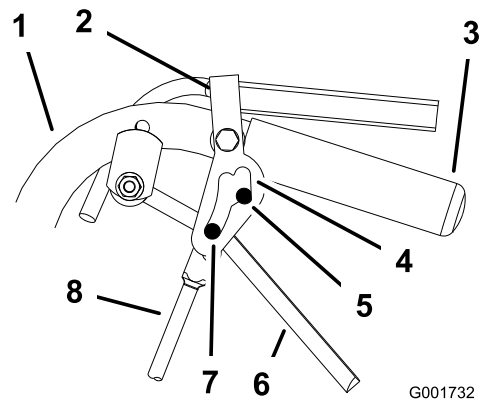

Figure 37
5. Release and engage neutral lock checking that the tire does not rotate (Figure 37). Continue this process until the tire does not rotate.